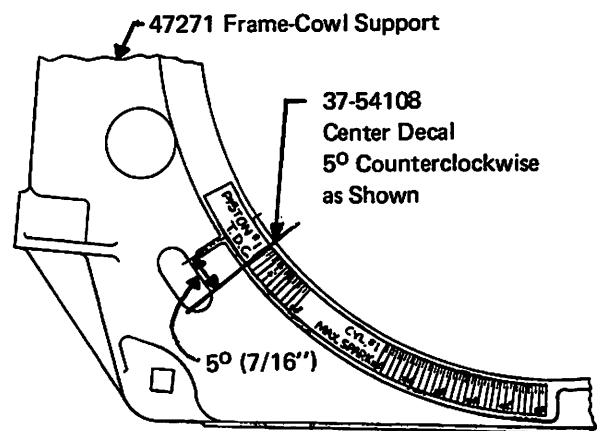

Figure 11. Locating Decal
*NOTE: For future service replacement on 1968-69 model Merc 650 engines, it will be necessary to move the decal 5° (7/16") counterclockwise from the marker for correct timing. (Figure 11)*